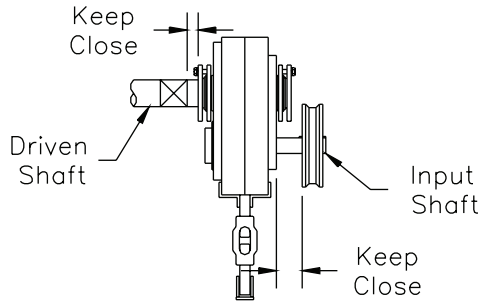

Figure 2 - Installation of Sheave
- Install sheave on input shaft as close to reducer as practical. (See Fig. 2.)